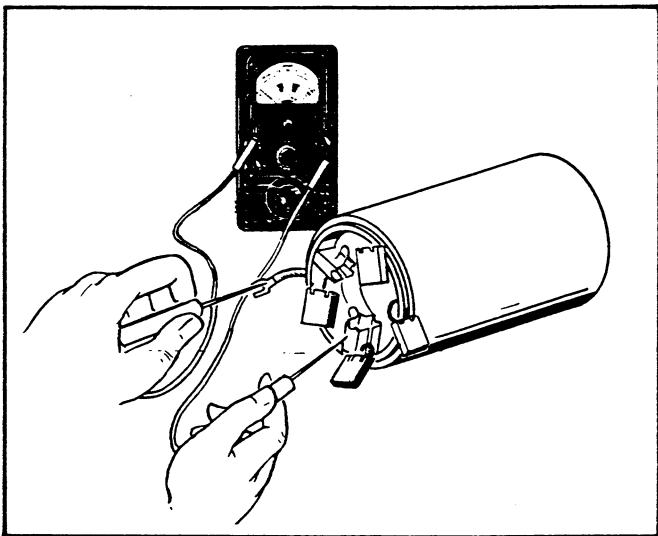

FIGURE 43. FIELD COIL OPEN CIRCUIT TEST
7. **Testing Field Coils For Open Circuit.** Place one lead on the connector and the other on a clean spot on the brush holder per Figure 43. If the ohmmeter reading is high, the field coil is open. Check the other three brush holders in the same manner.